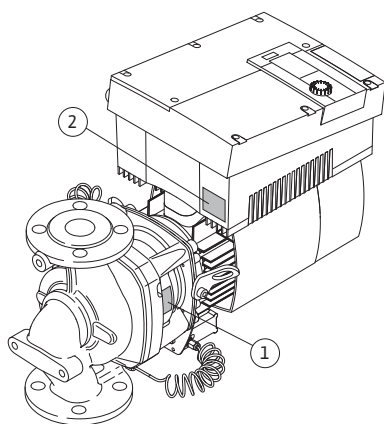

Fig. 11: Arrangement of the rating plates:
- The pump rating plate (Fig. 11, Item 1) includes the serial number (Ser.-No.../...), which is, for example, required for spare parts ordering.
- The electronic module rating plate (electronic module = inverter or frequency converter) (Fig. 11, Item 2) indicates the designation electronic module being used.